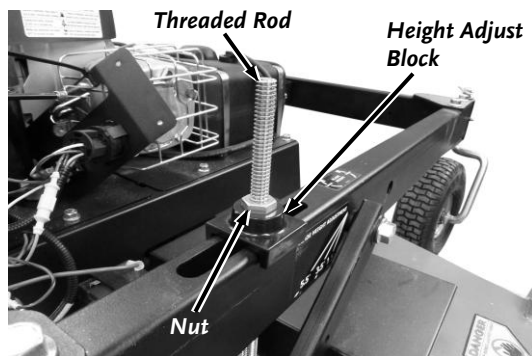

Figure 13
11. Pull up on the Threaded Rod and install the Height Adjust Block as far as it will go followed by a Nut (**Figure 13**). When the Nut touches the Block, turn the Rod so the Nut can set inside the Block.